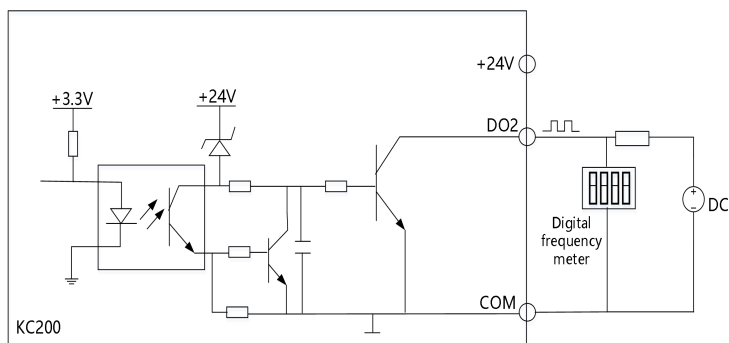

Figure 3-15 Output terminal DO2 connection mode 2
4. DO2 is used as digital pulse frequency output, and an external power supply can also be used. Please see Figure 3-15 for the wiring method.